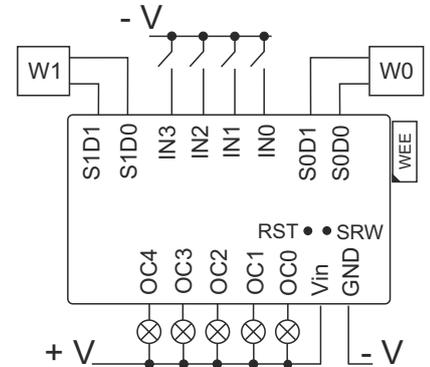

Fig. 1 Description of the device
- Note of the card PIN and Serial Number (SN) device (Both located on the housing of the device)
- Connect receivers OC0..OC4 receivers as in Fig. 1